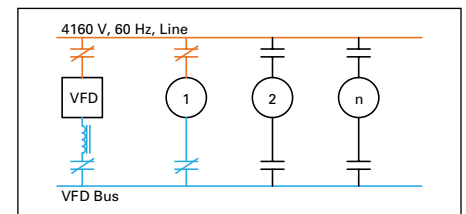

Figure 10.5-14. VFD Synced to Input
- PLC closes motor select (Figure 10.5-14)